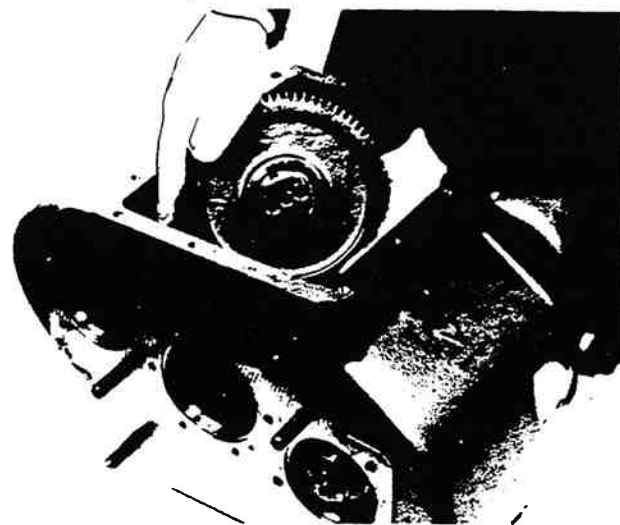

Figure 13-96. Positioning Right Countershaft.
2. Place the right countershaft assembly with the 45-tooth PTO gear into position in case, small end through right rear countershaft bore. Do not install bearings at this time (figure 13-96).